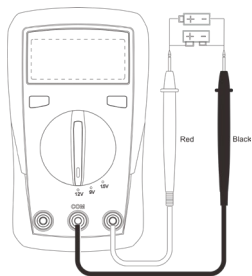

Figure 4
8. Battery Measurement (only for UT131B, see Figure 4)